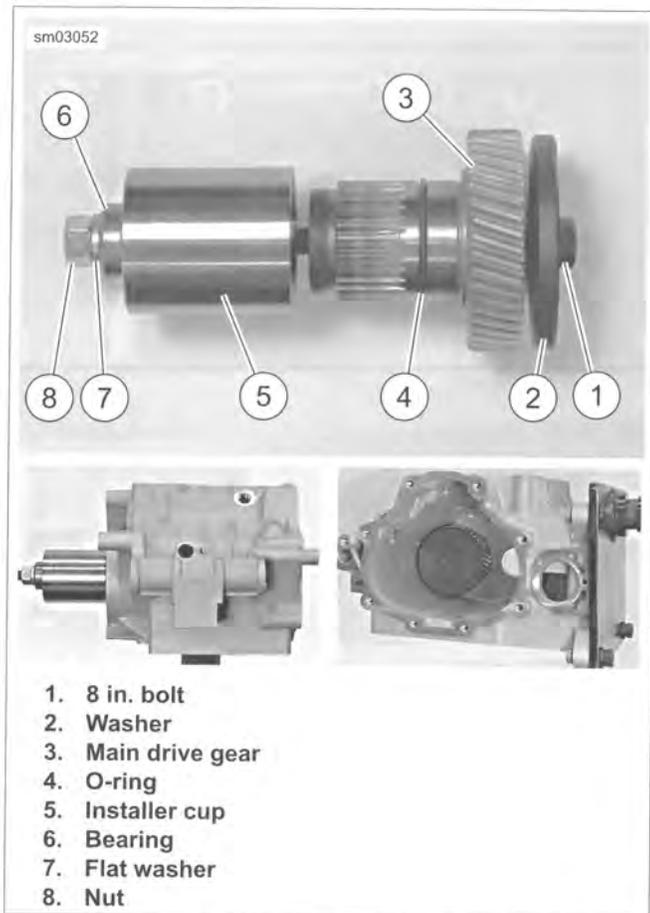

Figure 6-49. Installing Main Drive Gear (Typical)
See Figure 6-49. Make sure **new** O-ring (4) is installed onto main drive gear (3). Lubricate O-ring with clean engine oil.
1. See Figure 6-49. Apply a light coat of graphite lubricant to the threads of 8 IN. BOLT (Part No. HD-35316-4A) (1) and insert through WASHER (Part No. HD-35316-7) (2) and main drive gear (3). Insert assembly into transmission case, through main drive gear bearing.
2. Place INSTALLER CUP (Part No. HD-35316-12) (5), BEARING (6), FLAT WASHER (7) and NUT (8) over end of bolt.